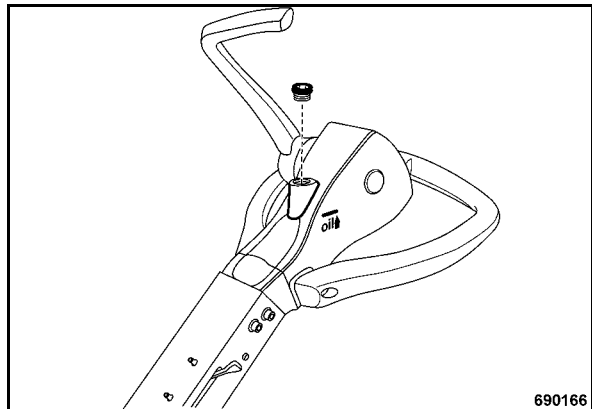

Fig. 60
- Adjust the steering rod with height adjustment (Fig. 60) so that the area with the level inspection plugs is horizontal.